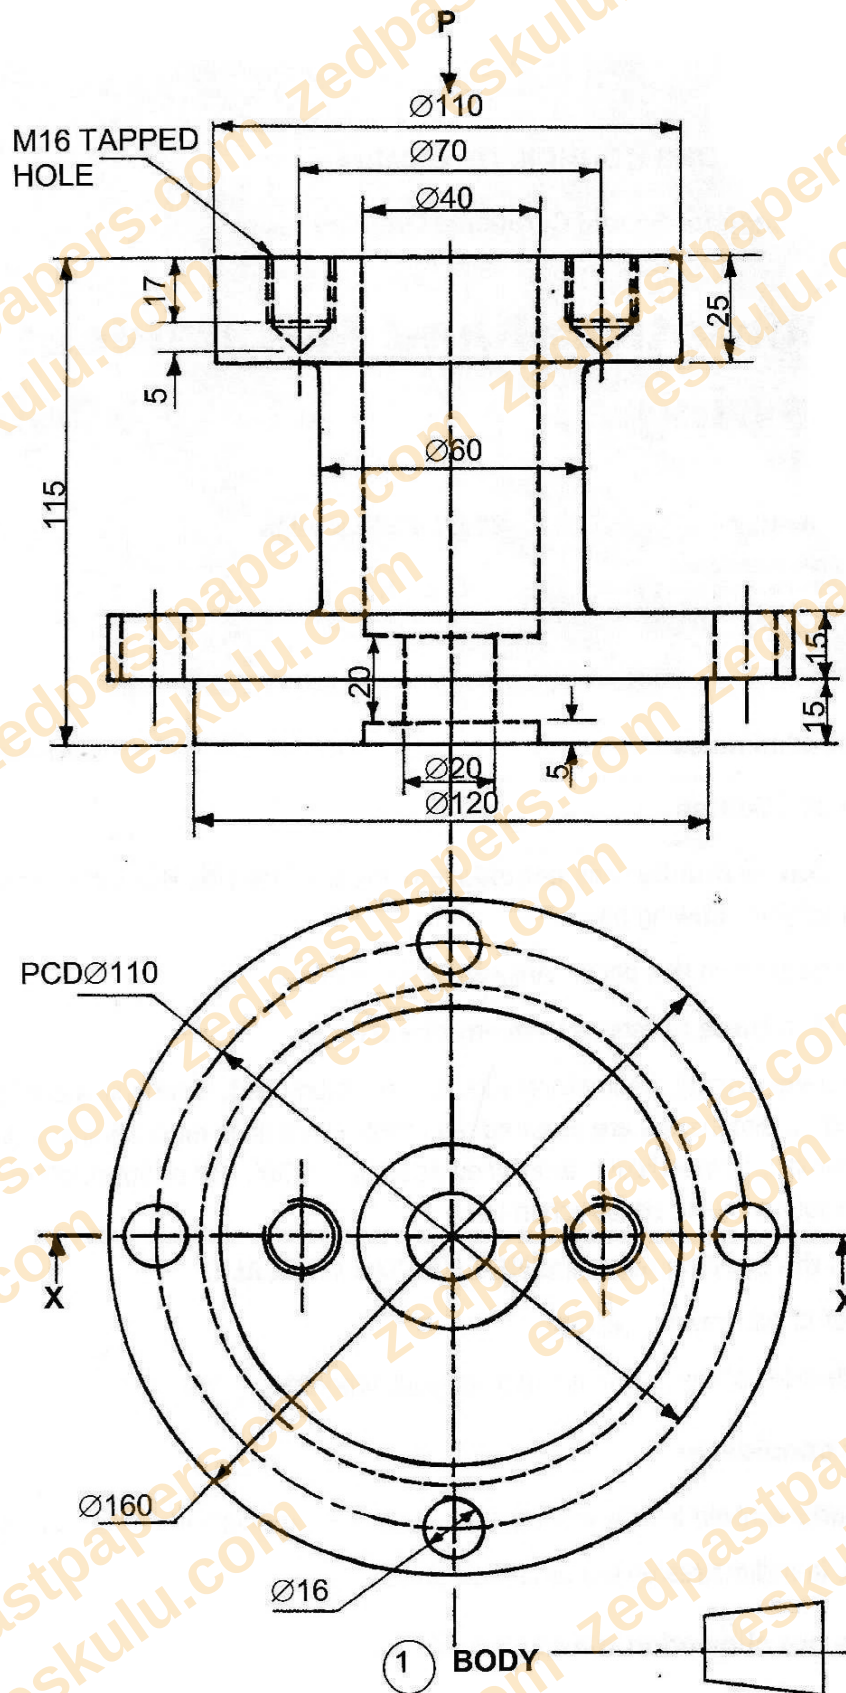

FIGURE 2
The insert contains **Figure 2** for Section 2.
- 2 Figure 2 on the insert shows details of the main components of a **PRESSURE PUMP VALVE** in First Angle Projection.
Question 2. SECTION 2 [84]. Figure 2 (insert) shows a Pressure Pump Valve assembly: BODY (1, Ø160 flange with 4x Ø16 holes on PCD110, central Ø120/Ø60/Ø70/Ø110/Ø40 bored boss with 2x M16 tapped holes at PCD... , overall height 115mm), SPINDLE (2, M20x2 threaded top, Ø40/Ø20 stepped shaft, 70/50/20mm heights), FLANGE (3, Ø18 bolt holes, R15/R30 profile, Ø20/Ø40 bore, 70mm wide, 12/40mm heights), WASHER (4, Ø20/Ø38, 2mm thick), NUT (5, M20, 16mm across), BOLT (6, M16 hexagonal, 11/29mm, 2 OFF). Assemble per the given instructions and draw, full size, in first- or third-angle projection: (a) a sectional elevation on X-X (plan), showing only the LEFT-HAND bolt in place; (b) a plan viewed from arrow P. No hidden details/part-lines. Insert 4 varied BS308 dimensions and a title block with projection symbol.